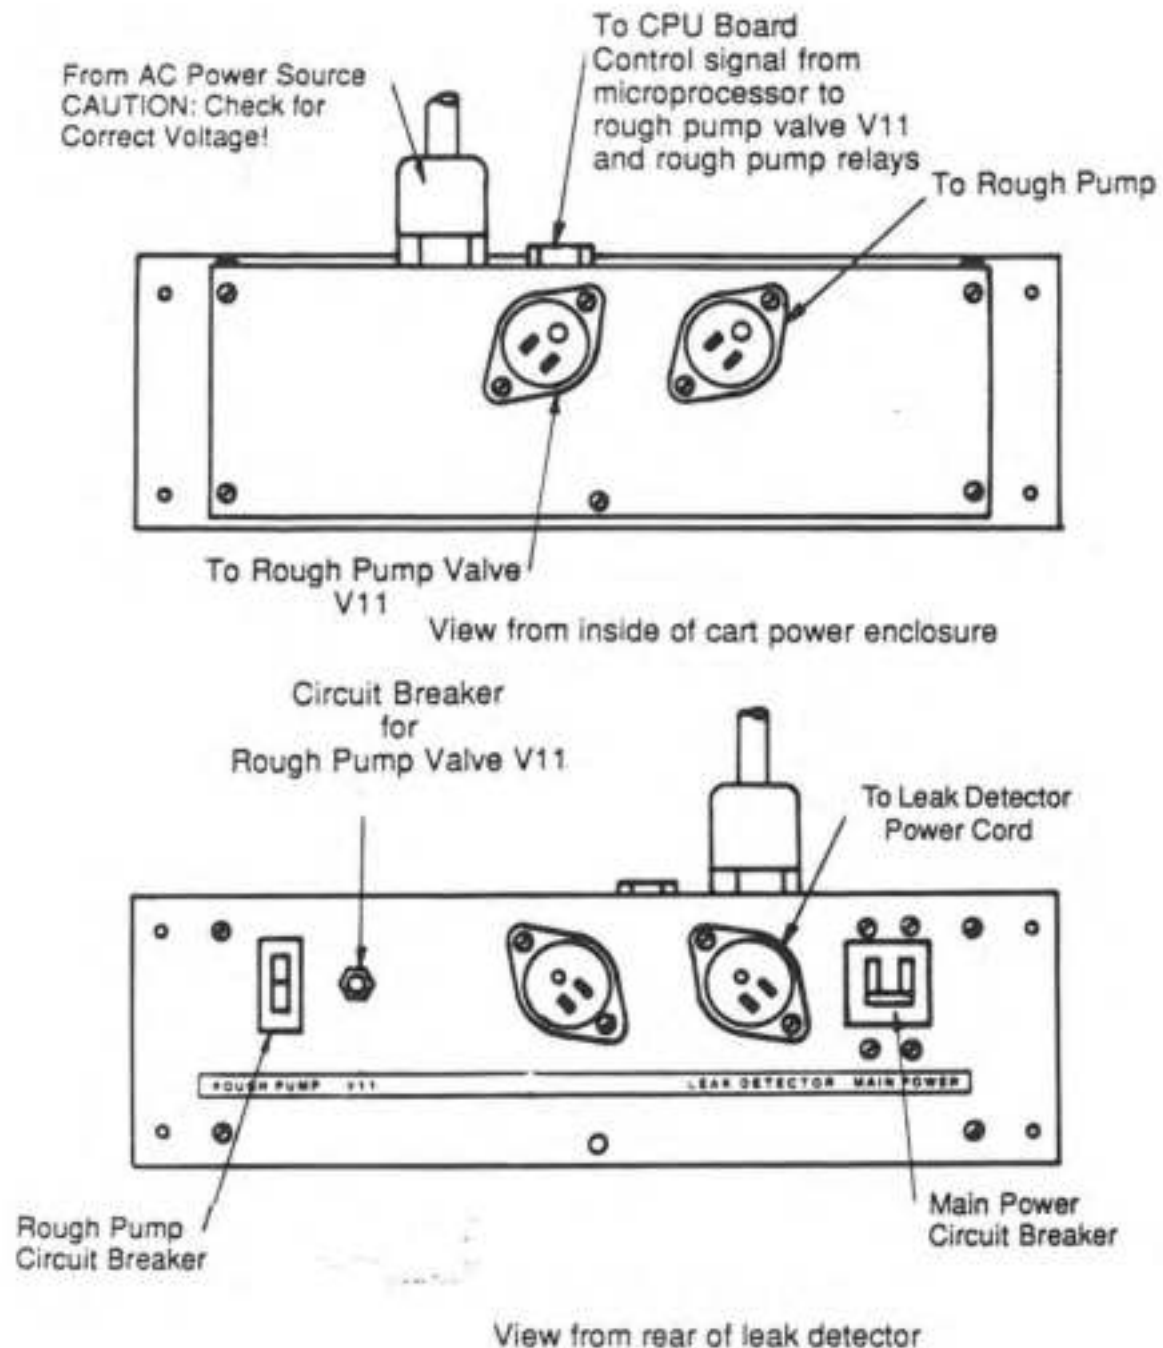

Figure 3-2. Leak Detector Installation Connections.
3-5 INSTALLATION (See Figure 3-2)
- 2 Check that all options (if any) are plugged in to their respective sockets (see Figure 3-2).